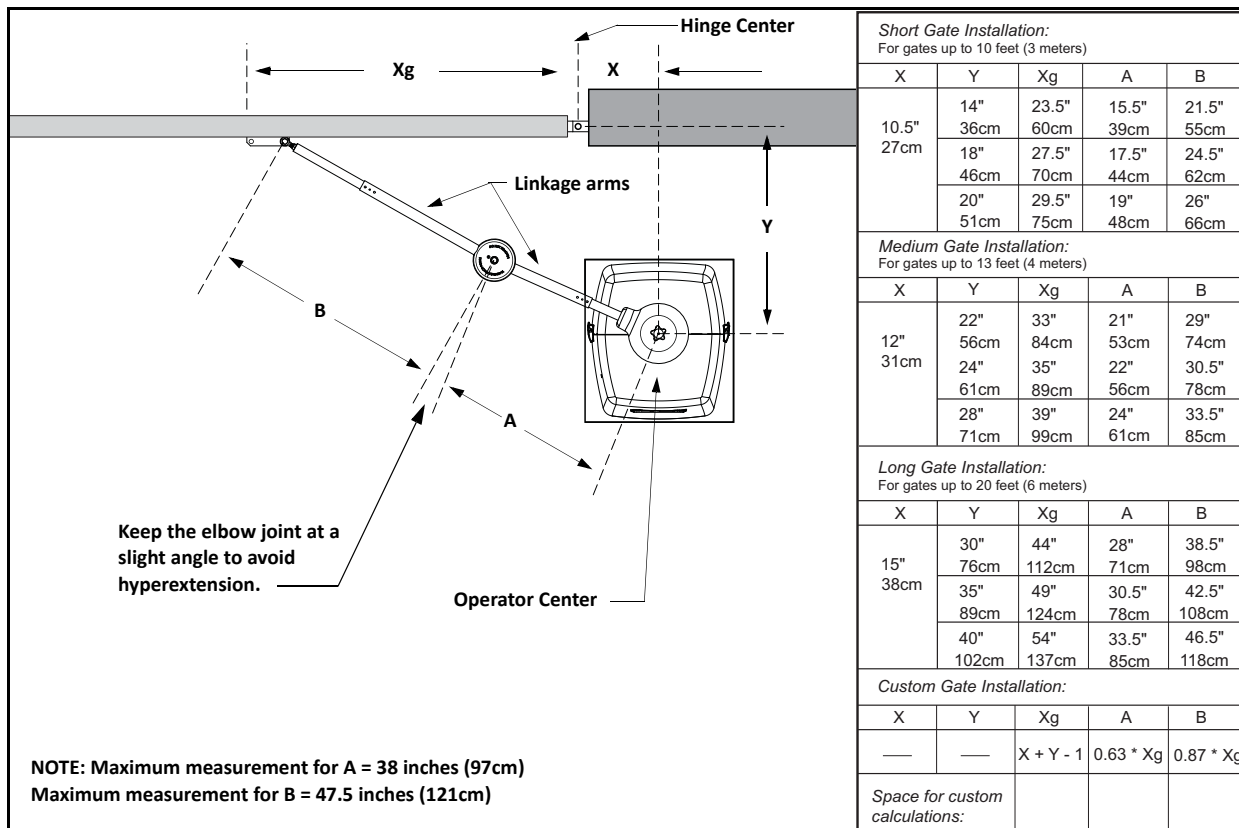

Figure 1-9.
- Verify the A and B dimensions on the arm linkage tubes. For short gate applications, the linkage arms must be cut to achieve the required lengths. See Figure 1-9. If your operator position does not fit the chart specs, use the Custom Gate Installation formula to determine the proper length.